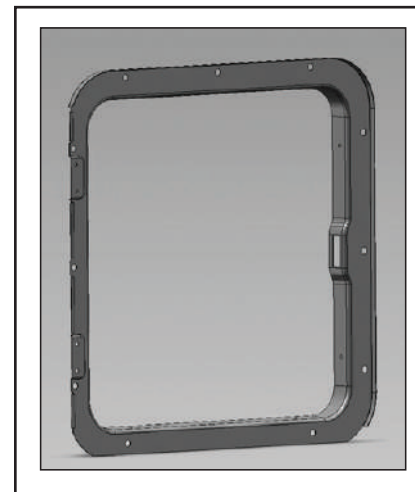

Figure 7
6. Secure water heater housing unit to the vehicle using No. 8 - $\frac{3}{4}$ " flat head screws through each hole in the door flange (Figure 4 and Figure 7). **Verify that a tight seal exists between the side wall and the flange. If not, repeat above steps.**